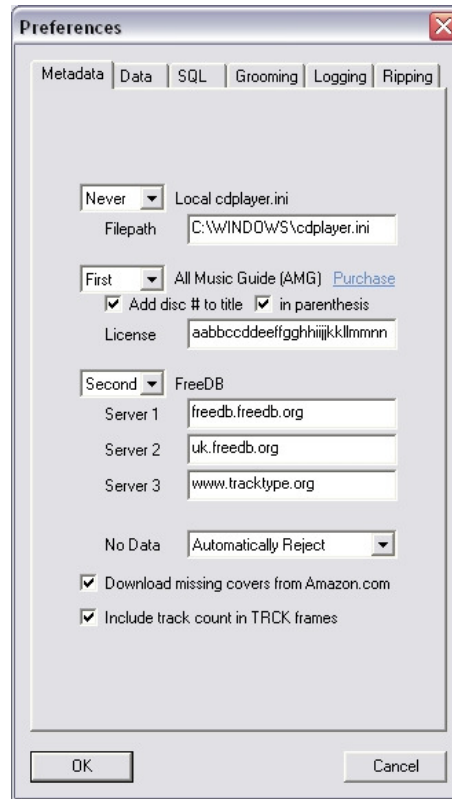

Figure 4.6 – Preferences Dialog Box (Metadata Tab)
Clicking on the preferences button opens the dialog box as shown in figure 4.6.
The metadata tab selected in figure 4.6 allows for the following settings to be selected:
- **Tracktype** – This is another free metadata service like FreeDB. Key the web address www.tracktype.org into the FreeDB options in the metadata preferences as shown in figure 4.6. Tracktype does not provide cover art.